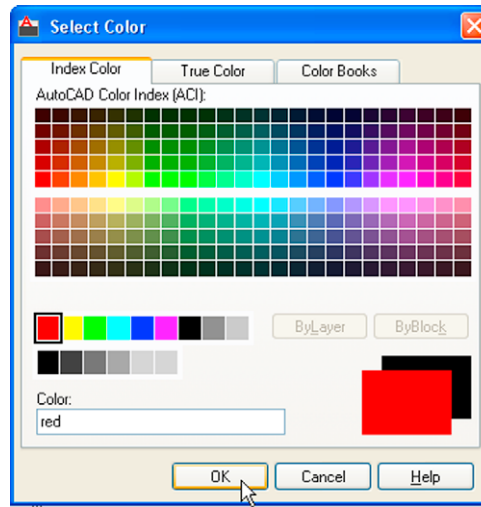

Fig. 4.17 The Select Color dialog
4. Click one of the squares under the **Color** column of the dialog. The **Select Color** dialog appears (Fig. 4.17). *Double-click* on one of the colours in the **Index Color** squares. The selected colour appears against the layer name in which the square was selected. Repeat until all five new layers have a colour.